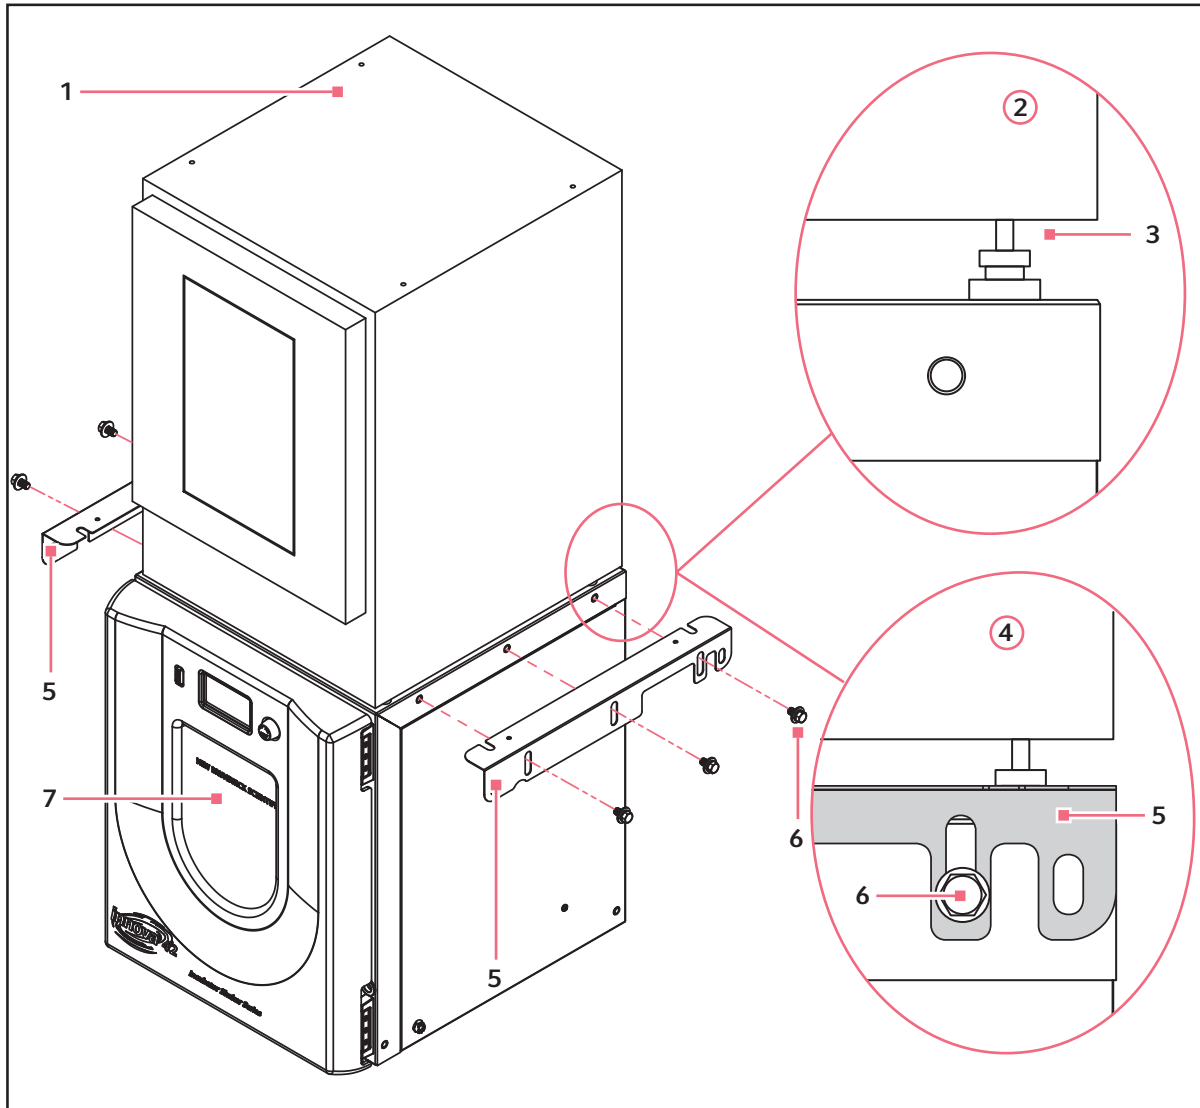

Fig. 4-10: Stacking an Innova 4200/4230 on an Innova 42/42R
3. With the help of a lifter or other suitable equipment, place center the Innova 4200/4230 over the Innova 42/42R, both facing in the same direction as shown below (see Fig. 4-10 on p. 38).